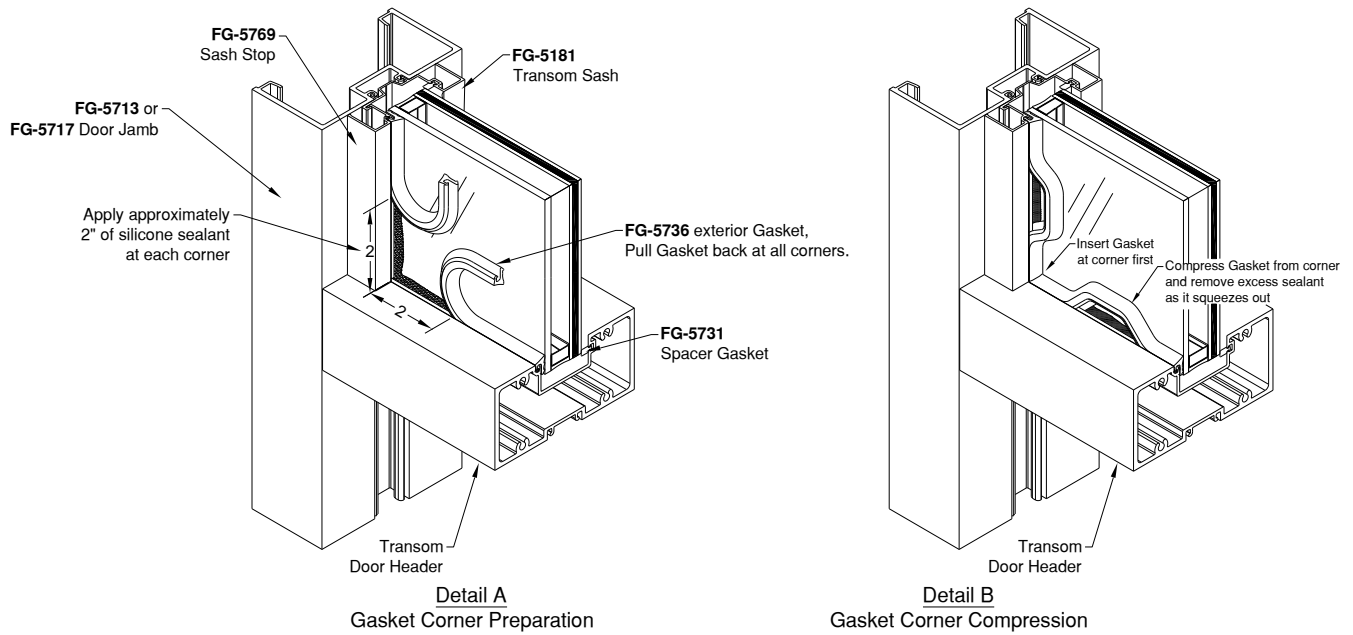

Figure 29: Exterior Gasket Installation
- 12.7.5 After gaskets are pressed into place, pull gasket from pocket at corners as shown in *Figure 29, Detail A*. Clean glass and gaskets a minimum of 2" from each end with iso-propyl alcohol.
- 12.7.6 Apply sealant and push Gasket into reglet, compressing from the corner first as shown in *Figure 29, Detail B*. Clean squeeze out immediately.